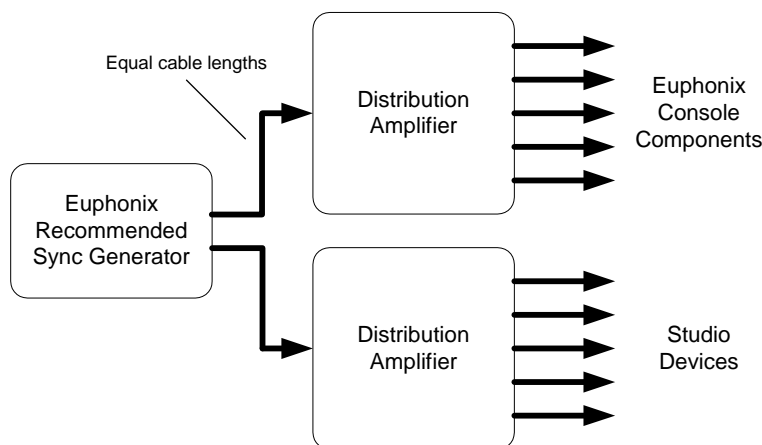
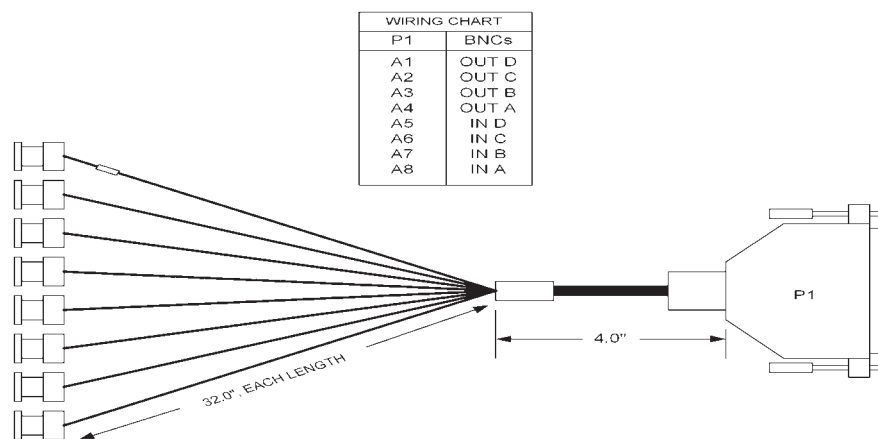

Figure 2-9 Recommended Sync Distribution Method
Figure 3-3 MADI I/O DSP Line Card Cable
MADI In (4) and MADI Out (4) digital audio ins and outs on a Combination D (Combo D) Subminiature connector. A MADI I/O DSP Line Card Cable connects to this Combo D connector and transports the MADI I/O to eight BNC connectors. See the MADI Hookup diagram (figure 2-9) and the MADI I/O DSP Line Card Cable diagram (figure 3-3) for details on these connections.